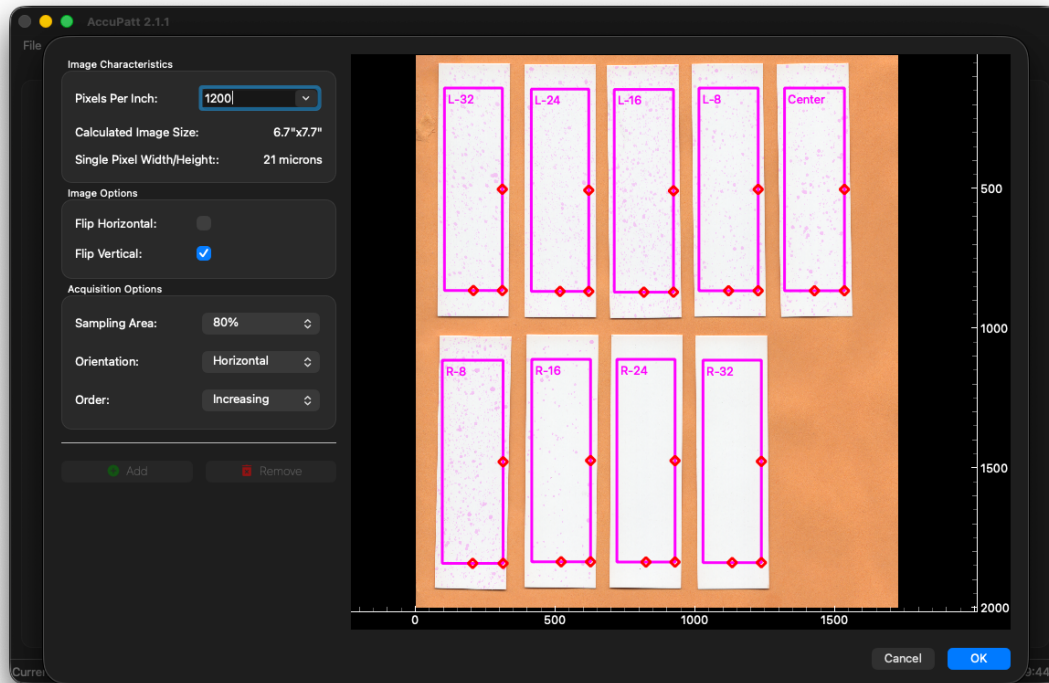

Figure 25: Spray-Card Analysis - Upload Image with Multiple Cards
8.1.2.2 Multiple Cards Per File When multiple cards are acquired in a single large scan, this method will allow cropping of each card and saving individually to the datafile. After selecting the file, the image will be shown with each card's independently draggable, resizable region-of-interest (ROI) (Figure 25). The image may be panned or zoomed-upon. To decrease RAM consumption, large images are shown in lower resolution here, but full-resolution ROIs will be cropped out of the original image using a scaled coordinate system.